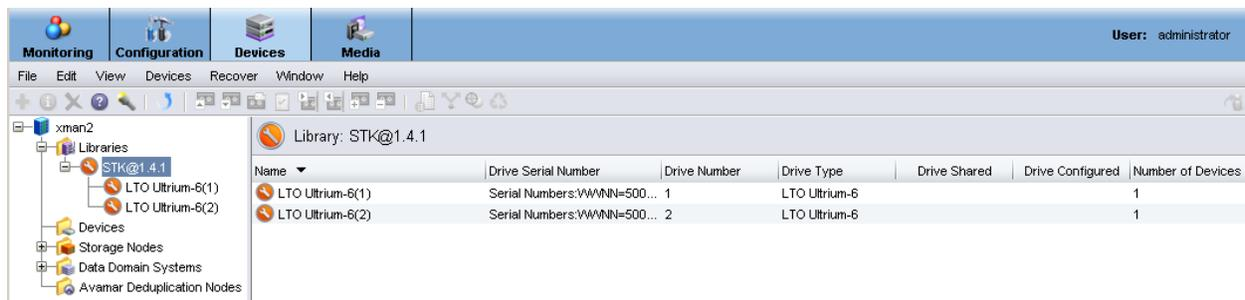

Figure 6: NetWorker Devices screen with Libraries expanded.
- 2) While still in the Devices section of the GUI, click on Libraries, select the discovered library, right click and select Configure Library. (See figure 6):